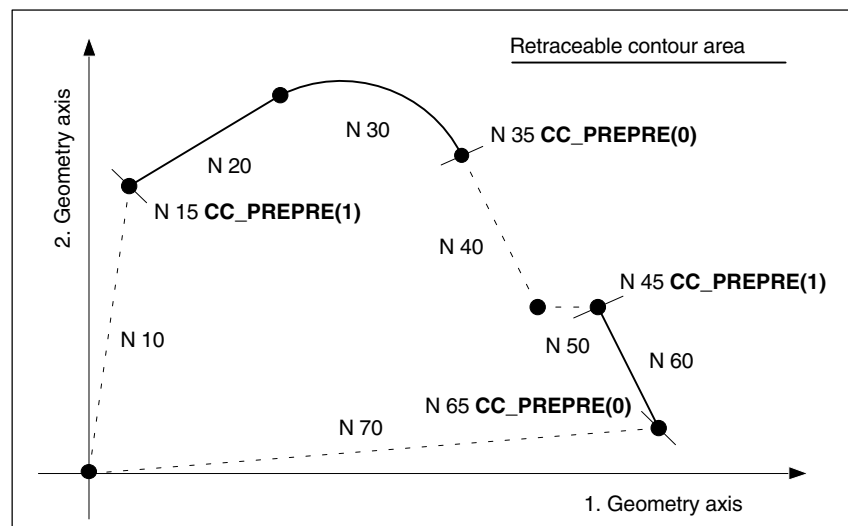

Fig. 2-1 Retraceable contour areas
Retraceable contour areas comprise motion blocks from the 1st and 2nd geometry axes, which are programmed in the part program between the RESU start CC_PREPRE(1) and RESU stop CC_PREPRE(0) commands. See Fig. 2-1, page 3/TE7/2-6.